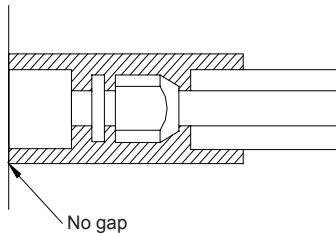

Fig. 19
- (1). The refrigerant pipe should be wrapped with insulation and secured with plastic tape in order to prevent condensation and water dripping.
- (2). The joints of the indoor unit should be wrapped with the insulating material with no gaps on the joint of the indoor unit, as shown in Fig. 19.